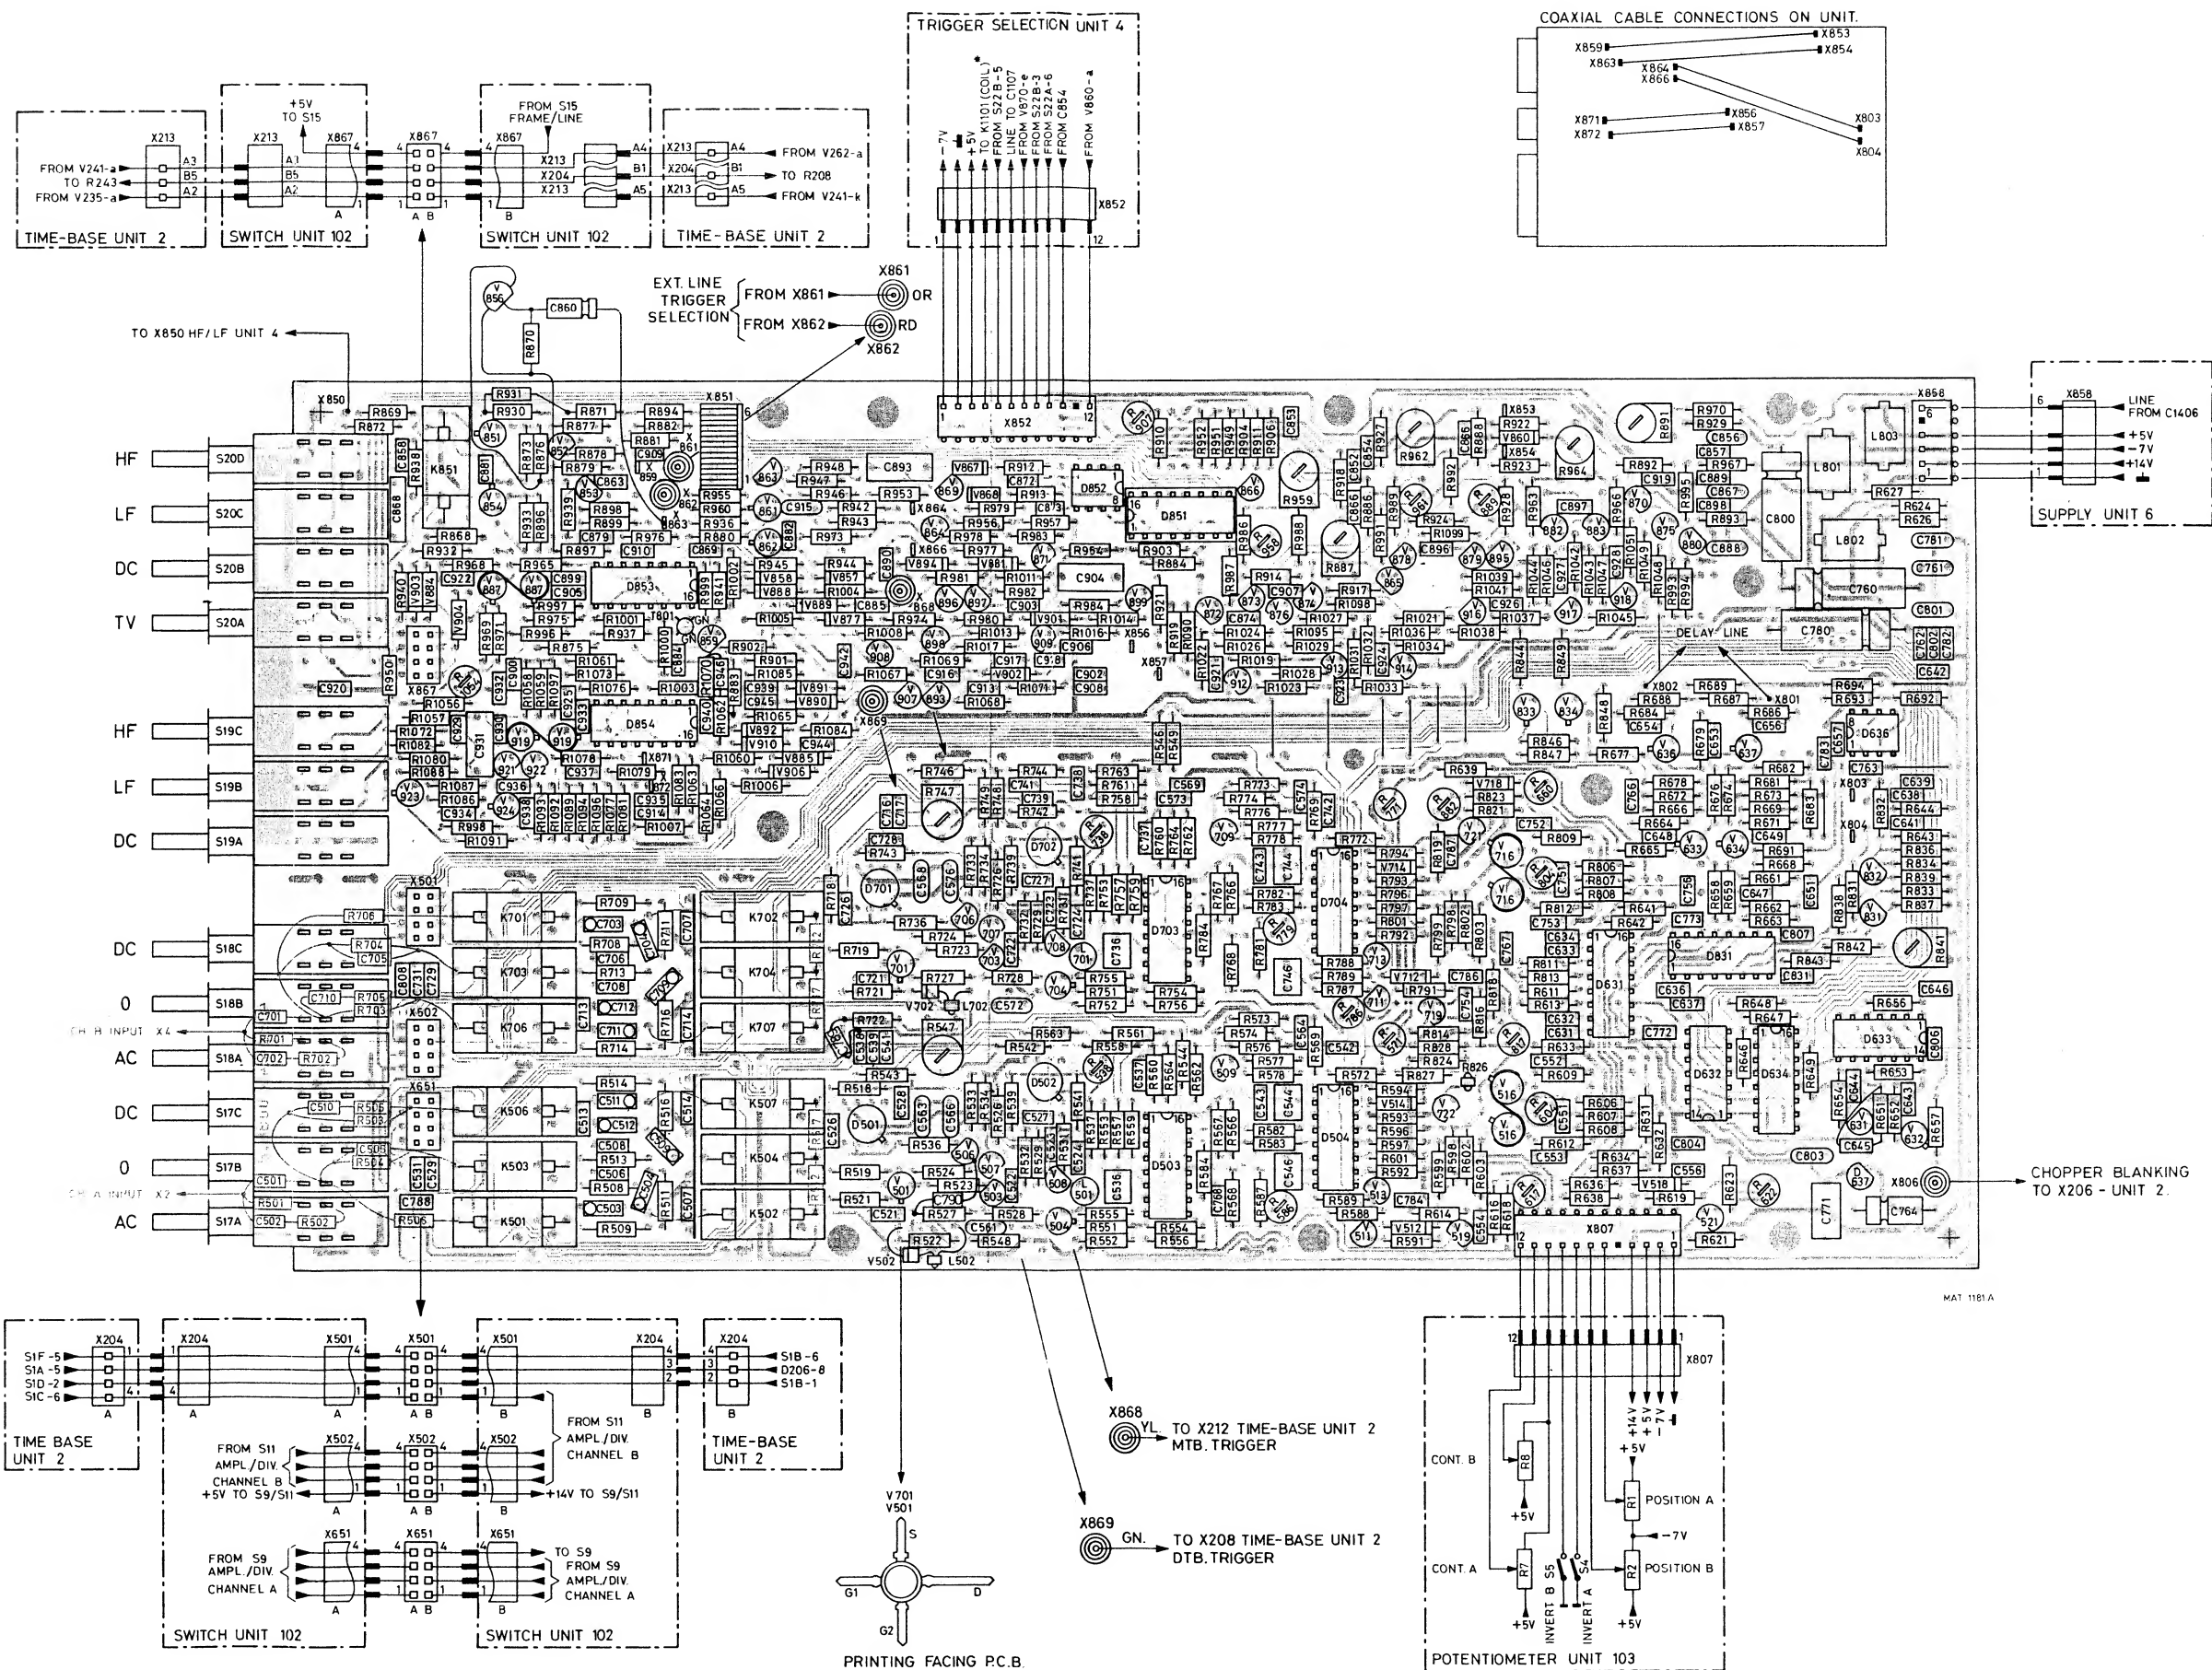

Fig. 2. Preamplifier and trigger unit, p.c.b. lay out.
- Unit 3: preamplifier and trigger unit (see fig. 2).